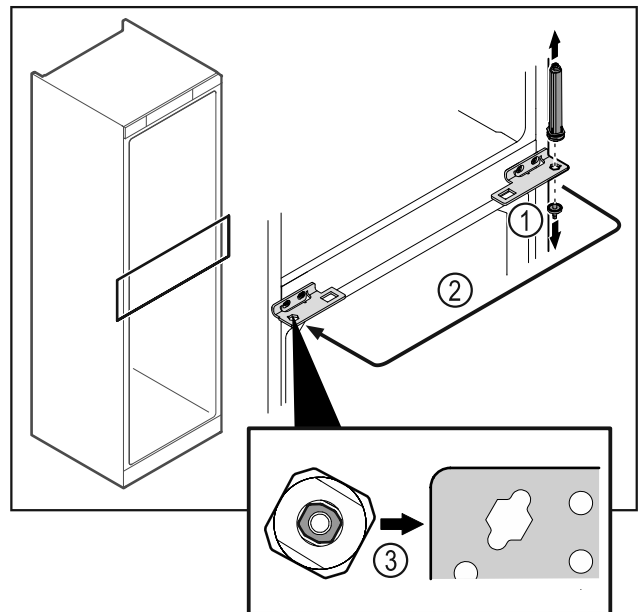

Fig. 38
- ▶ Unscrew the hinge pin Fig. 38 (1).
- ▶ Move the door closing system Fig. 38 (2).
- ▶ When inserting, make sure that the door closing system Fig. 38 (3) is correctly aligned.